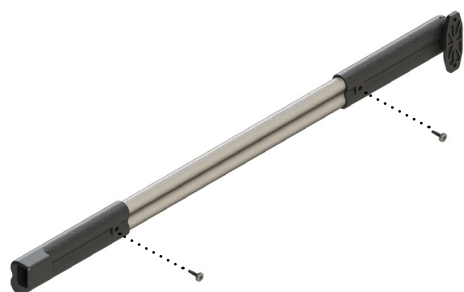

Fig.14
5. Move the assembly to a stable work surface and install the sleeves to the marked dimensions using the provided screws (Fig.14). The push bar is now complete.